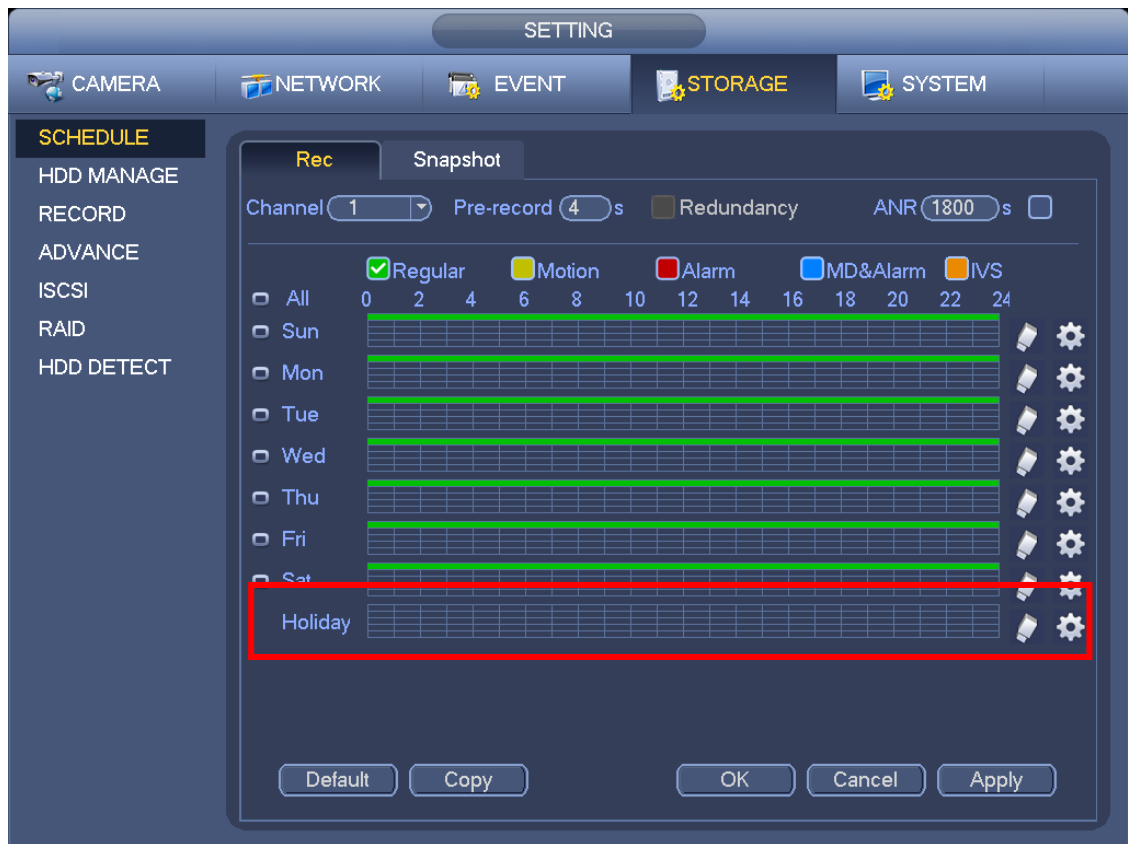

Figure 3-79
- d) From Main menu->setting->Storage->schedule, you can go to schedule interface. See Figure 3-79. Now you can set period and record type of holiday time. Please refer to chapter 3.11.2.1 for detailed setup information.
From Main menu->Setting->Storage->Schedule, you can go to schedule interface. See Figure 3-79. Click Holiday item to set snapshot period.